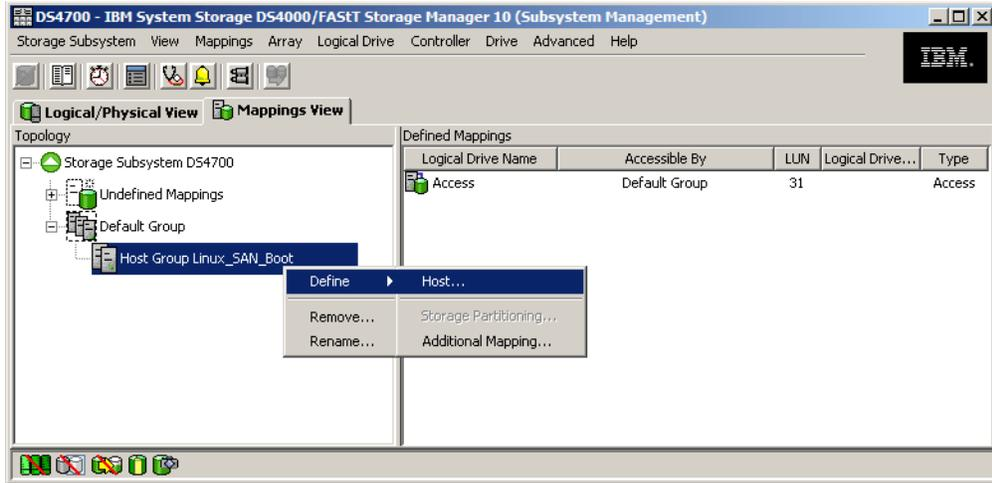

Figure 10-54 Define host
8. After defining the host group name, define the server into the newly created host group. Expand **Default Group**, right-click the newly created host group name, and click **Define** → **Host**, as shown in Figure 10-54. This starts the define host wizard.